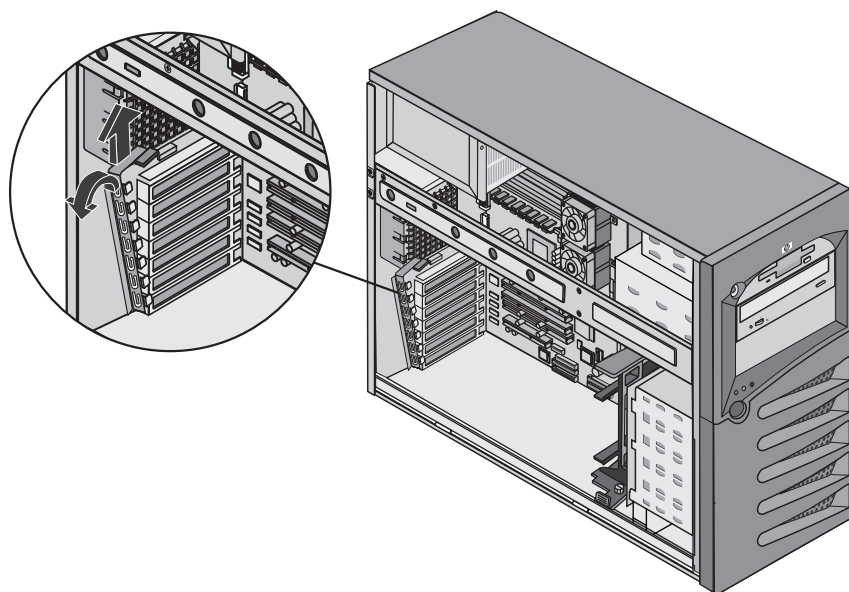

Figure 2-20: Removing IO locking bracket
6. Remove the IO locking bracket. Refer to Figure 2-20.